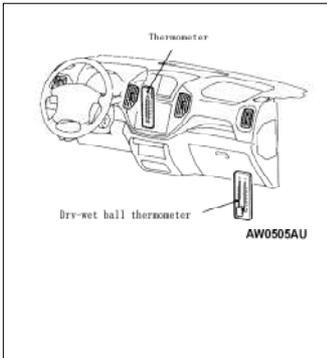

Fig.21-14
(10) Insert a thermometer in the central air outlet of instrument panel, and install a dry-wet ball thermometer into air inlet port (see Fig.21-14).